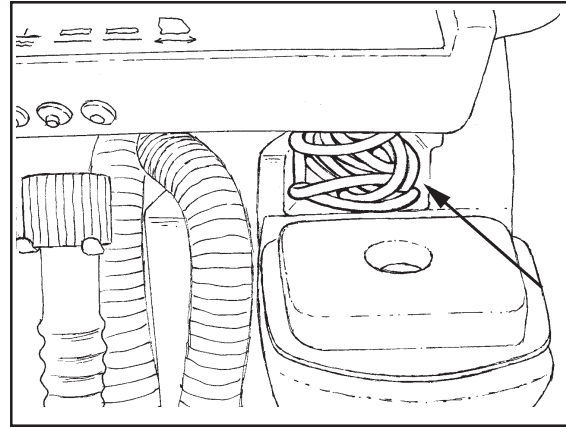
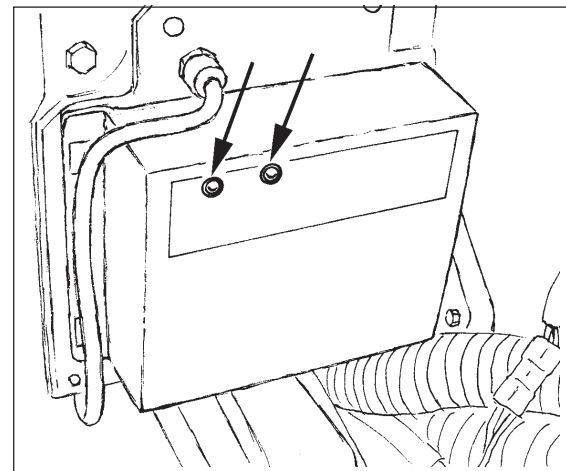

Figure 16
Figure 17
5. The Encore 17 is equipped with an on-board charger located behind the recovery tank (See Figure 17). The charger is a 3-stage charger designed to maximize battery life. The AC power cord to the on-board charger is located in its storage compartment under the control handle at the rear of the machine (See Figure 16). Pull the cord out of the storage compartment.
- **Bulk Stage** - In the bulk stage of charging, the red light is illuminated on the charger (See Figure 17). During this stage the charger is supplying its full amp output to the batteries. It will continue to charge the batteries at this rate until the batteries reach approximately 75% of their capacity.
- **Absorption Stage** - In the absorption stage the red and green light will be illuminated on the charger (See Figure 17). During this stage the charger maintains constant voltage and lets the batteries absorb the charge at their own rate.
- **Float and Maintenance Stage** - In the maintenance stage the red light turns off and only the green light will be illuminated on the charger (See Figure 17). During this stage the charger applies a lower, closely regulated voltage to maintain full charge and prevents discharge. Batteries can be connected indefinitely without harm.
8. Unplug charger power cord from the wall outlet before powering up control panel on machine. Store the charger power cord in the storage compartment located under the control handle (See Figure 16).